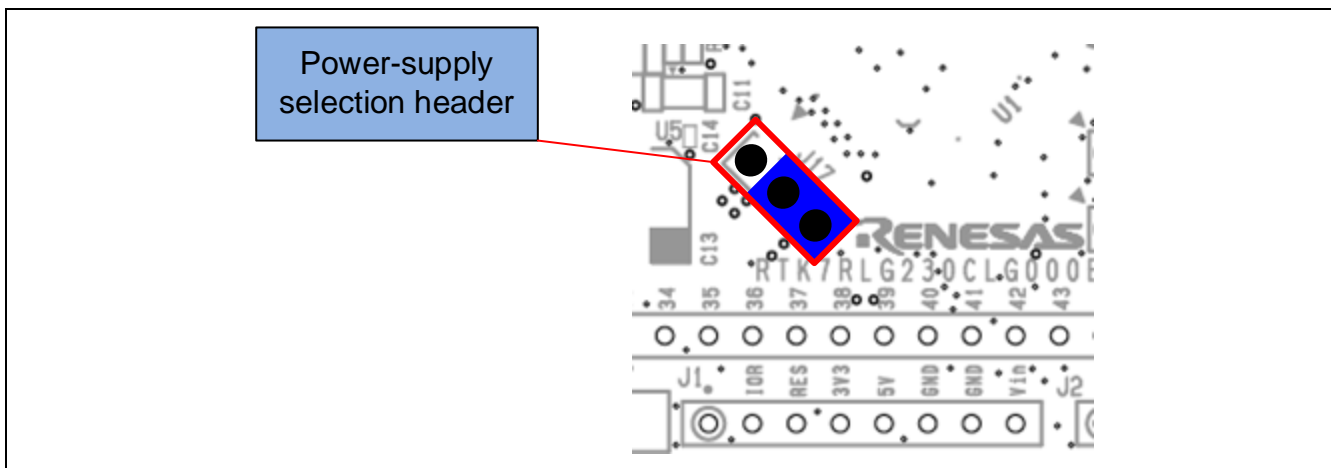

Figure 5-5 Setting of the Header to Select a 3.3-V Power Supply (Top Side)
- 2-3 of J17 being short-circuit selects a 3.3-V power supply (Figure 5-5).